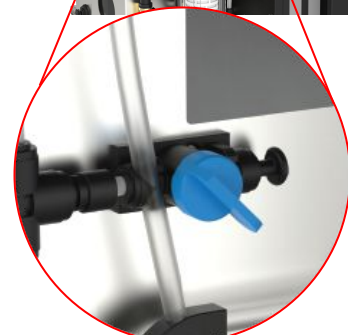

Fig 3
4. RELEASE Pressure by opening manual valve V13 located behind the Pre-Treatment housing (Fig 3).